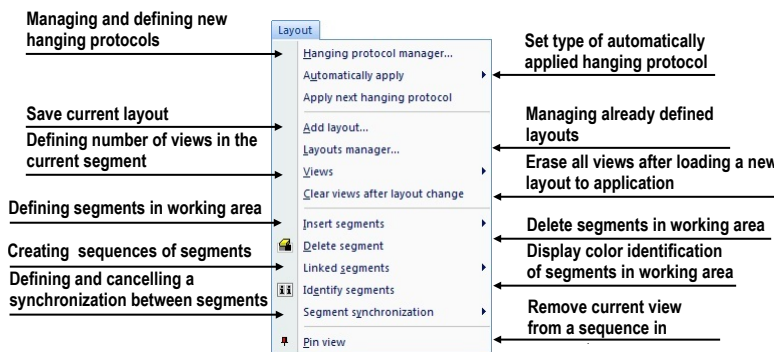

Figure 39 – Layout menu
- **Layout** – functions for managing layouts and hanging protocols in TomoCon, like creating a layout or hanging protocol, defining sequences or synchronizations, etc. (see Figure 39).